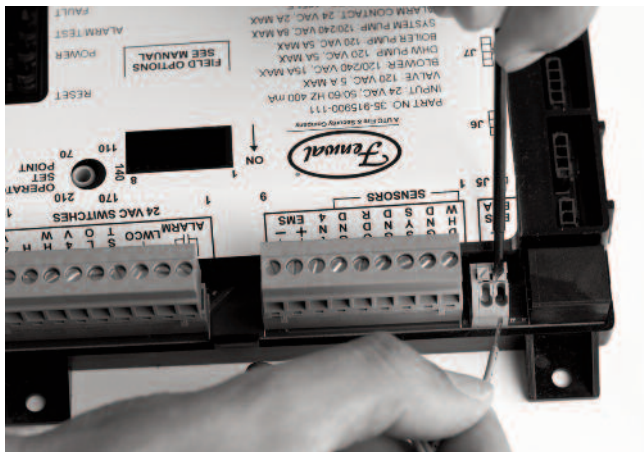

Fig. 35: FT_BUS Wire Connection
3. Connect the FT_BUS wires to the PIM by pressing down on the slots with a small screwdriver and then inserting the wires into the holes. See Fig. 35.